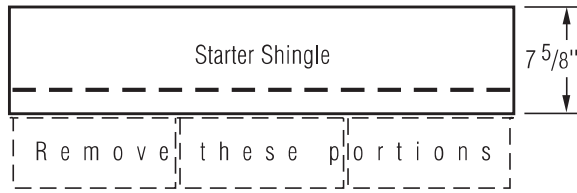

Figure 11-6: Make starter shingles that are 7⁵/₈" in height.
1. Use CertainTeed Swiftstart® Starter, or three-tab self-sealing shingles with the lower tab portions removed. Be sure that the starter shingles are at least 7⁵/₈" in height. (Figure 11-6).